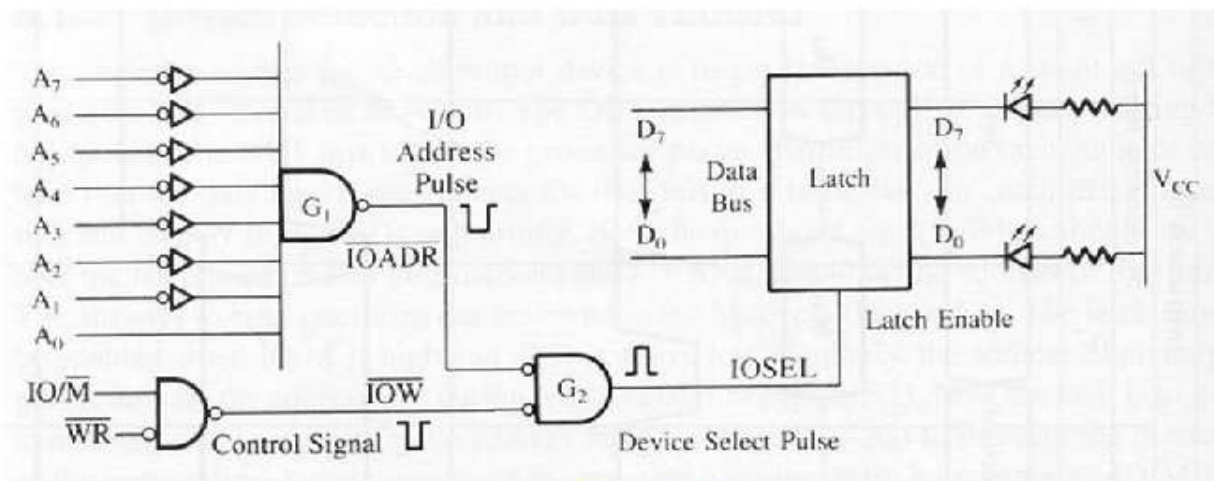

Figure 2
- Figure 2 shows one of the way to decode address lines to obtain output address 01 H
- Figure 2 have shown the technique to decode I/O output address in **absolute** decoding technique.